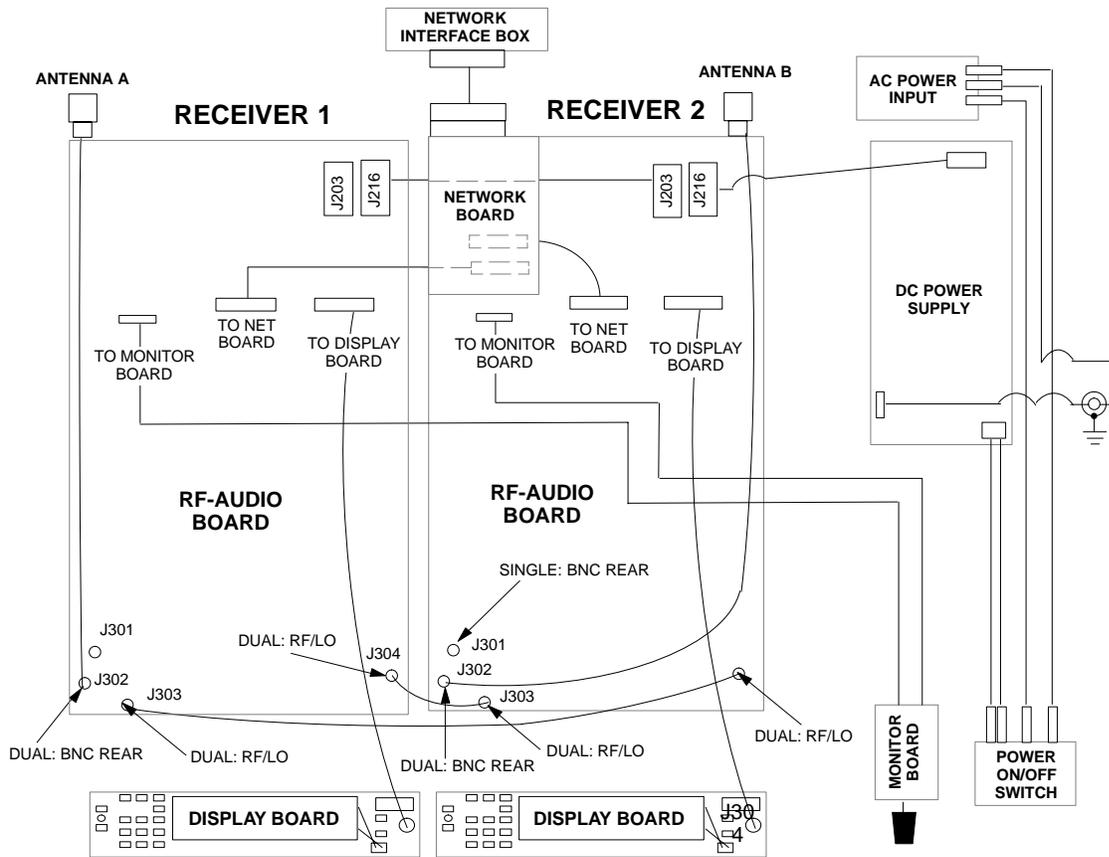

Figure 3. Final Cable Configuration
1. Tag and disconnect the cables attached to the pcbs. Standard cable connections are shown in Figure 3.
7. Reconnect all tagged wires and cables. Standard cable connections are shown in Figure 3.